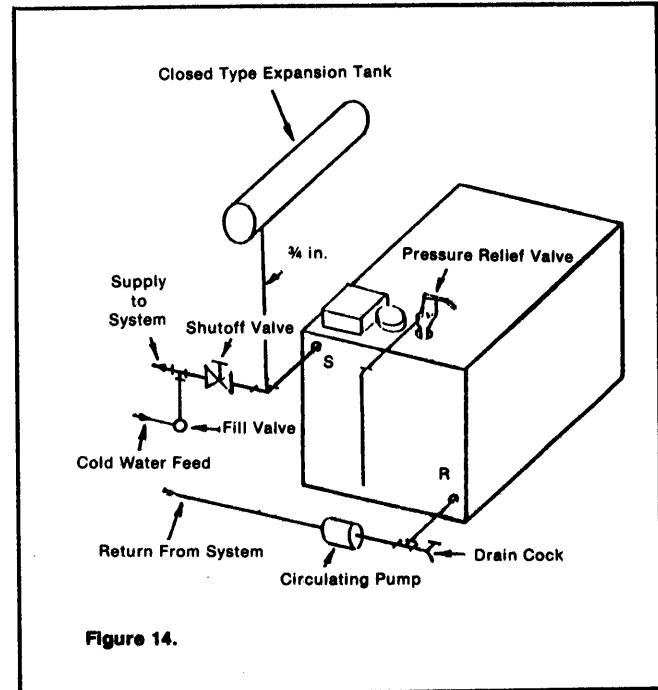

Figure 14.
- Piping Connections with closed type expansion tank — see Figure 14.